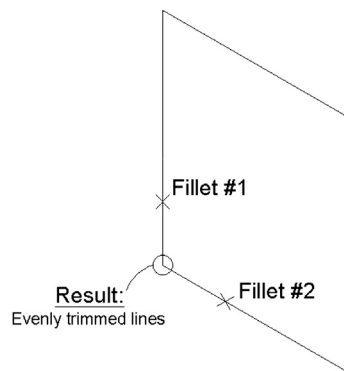

FIGURE 20.5
- Step 6.** Now, use the fillet command to fillet the line between Clicks 4 and 5 and Clicks 1 and 2. Figure 20.5 shows the result.